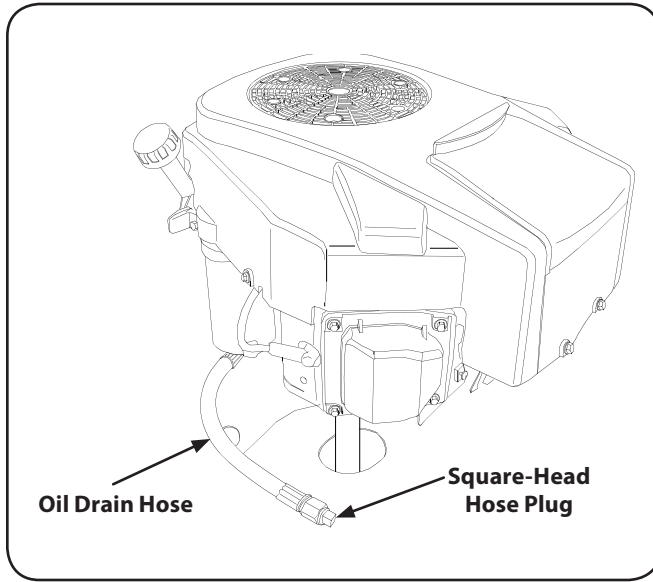

Figure 6-2
4. If your engine has the oil drain hose setup in Fig. 6-2, see the Oil Drain Hose section below.
2. While holding the free end of the oil drain hose over the oil collection container, unscrew the square head hose plug from the end of the hose. See Fig. 6-2. Drain the engine oil into the collection container.